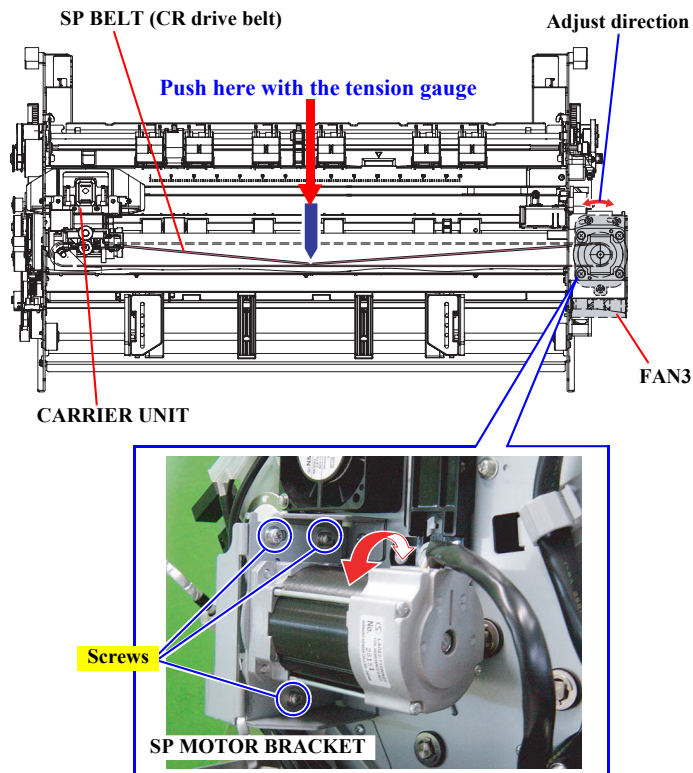

Figure 5-1. SP BELT (CR Drive Belt) Tension Adjustment
4. At the center of the drive belt (SP BELT), push the belt with the tension gauge in the direction shown in Figure 5-1, and verify that the tension level is within 1500 ~ 2000 gf when the belt (front and rear) contacts itself. If the belt tension is not within the range, follow the steps below to adjust the tension.
6. Move the SP MOTOR BRACKET in the direction of the arrow shown in Figure 5-1 below, and temporarily secure it with screws.